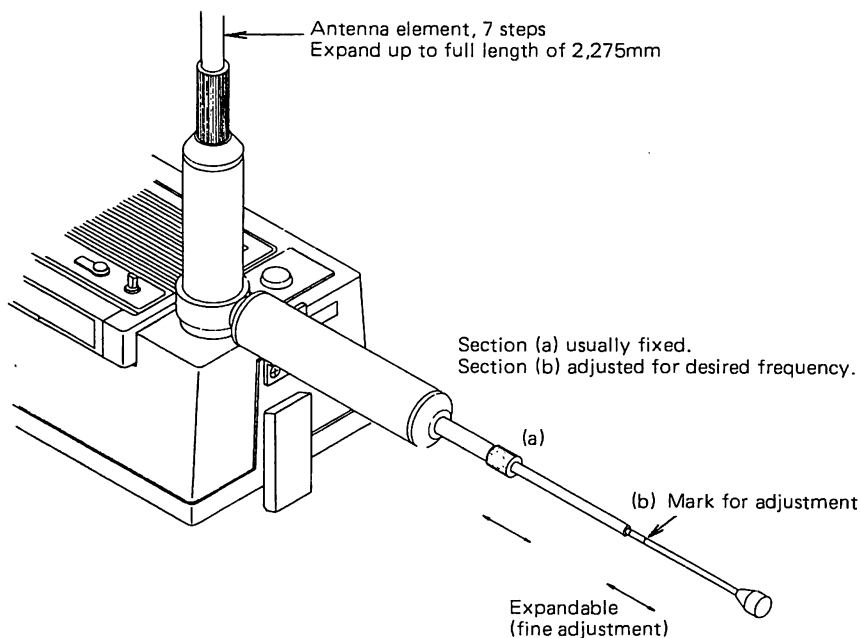

Figure 3.2 Radial Earth Element
- (4) Loosen the clamber at Section (a) in Figure 3.2.
- (5) Set the POWER switch to LOW.
- (6) Set both the MHz-switch and FREQ. control and FINE control to the frequency: 21,200kHz for the NAW-210W and 7,050kHz for the NAW-700W.
- (7) Depress the key. If the key is not available, connect a copper wire of 5cm long, about 0.8mm in diameter, as follows: